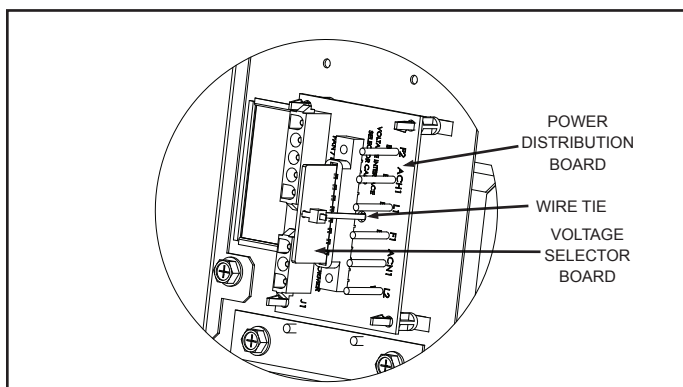

Figure 23. Power Distribution Board With Voltage Selector Board Installed for 240 VAC
2. Cut the plastic wire tie fastening the voltage selector board in place and discard it. Be careful not to abrade or damage any wiring or other components. Unplug the voltage selector board from the receptacle. See Figure 23.